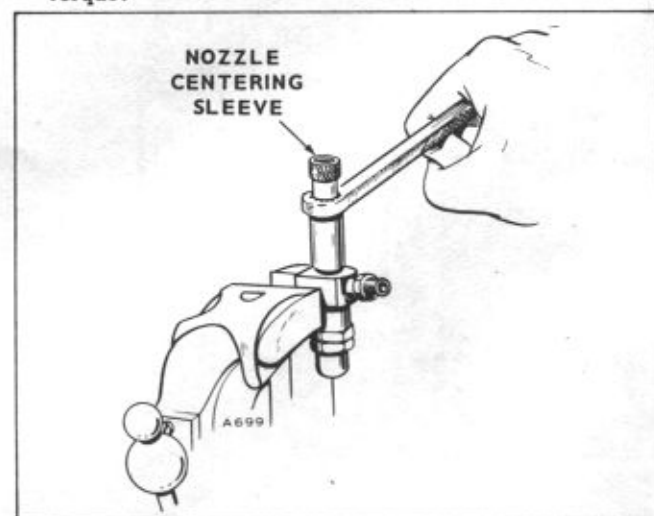

Figure 27. Tightening Nozzle Cap Nut
5. Place the centering sleeve over the nozzle (Fig. 27) for initial tightening. Then remove the centering sleeve to prevent it from binding between nozzle and cap nut and tighten the nozzle cap nut to specified torque.